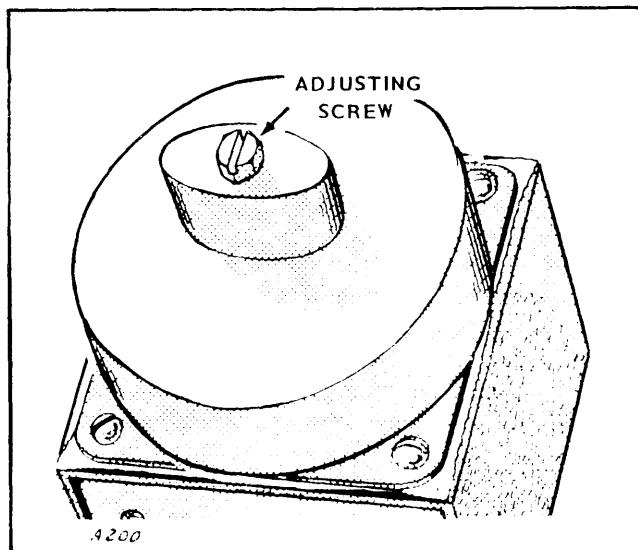

FIG. 18
1. The Agastat Pneumatic Delay-Relay (Fig. 18) is adjustable from 1-second to 10-minutes. Time delay can be either on energization or de-energization depending on relay uses.